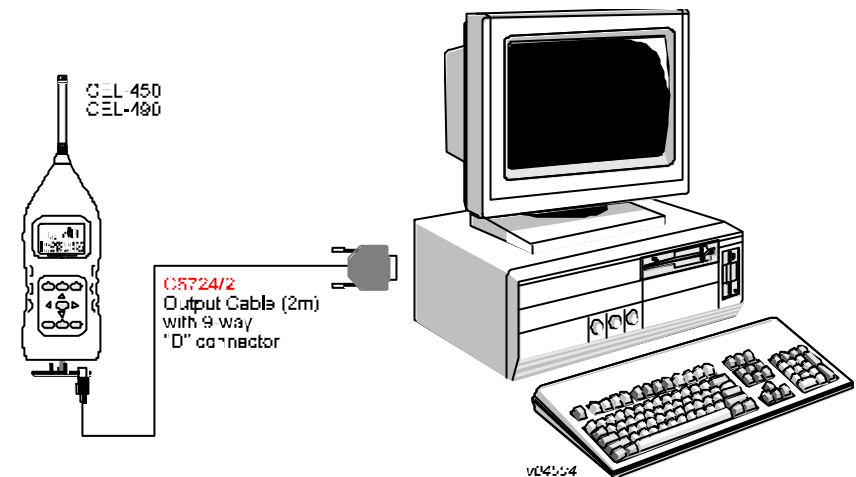

Figure 1: Local connection between sound level meter and PC
1. With the sound level meter switched OFF, connect it to the PC serial port using the **C6724/2** Communication Cable as shown in Figure 1.